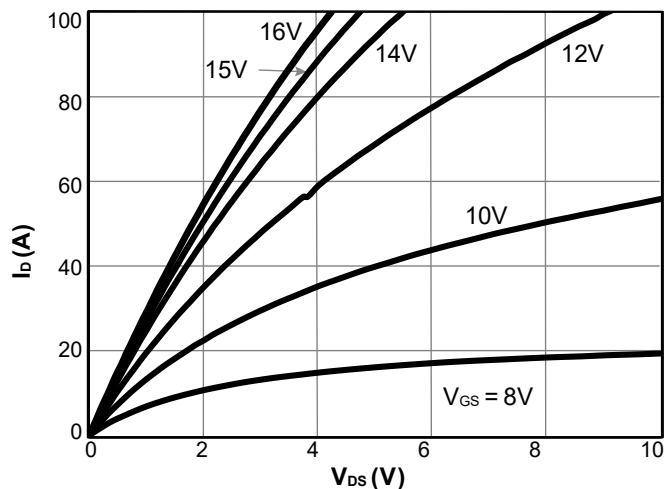

Figure 1. On-Region Characteristics $T_j = 25^\circ\text{C}$
H. The static characteristics in Figures 1 to 8 are obtained using $< 300\text{ms}$ pulses, duty cycle 0.5% max.